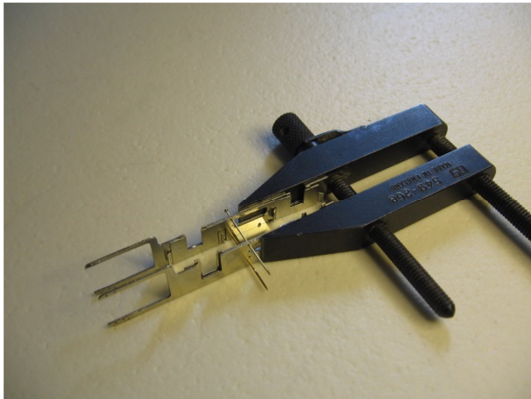

Fig. 3
4. Locate the mid frame spacer (8),
8. hold with an engineers clamp or similar, Fig 3 & 4,